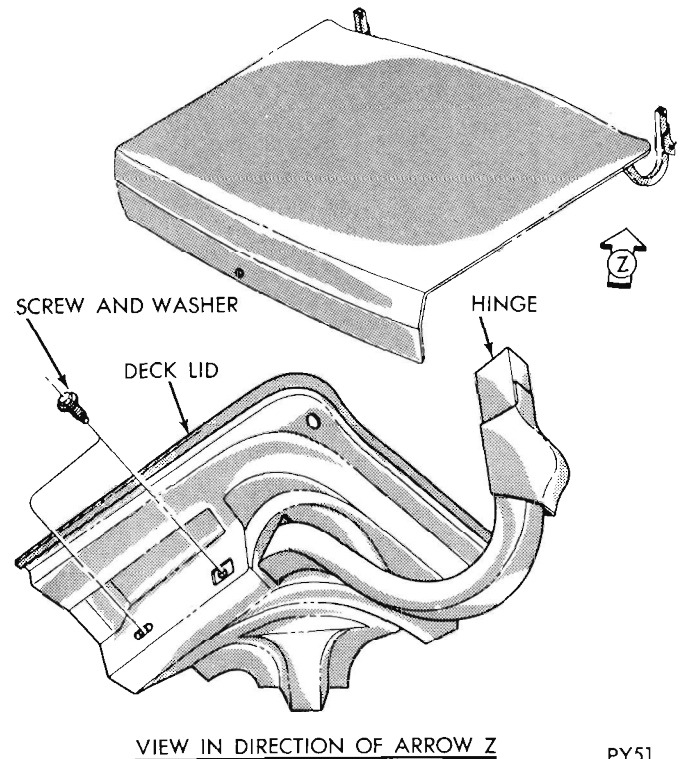

Fig. 50—Deck Lid Hinge
The deck lid hinges (Fig. 50) permit only slight justment at the hinge attaching points. The hinge brackets are welded in place and are not adjustable.
- (3) Remove spring nut retaining hinge to hinge bracket (Fig. 50) and remove hinge.